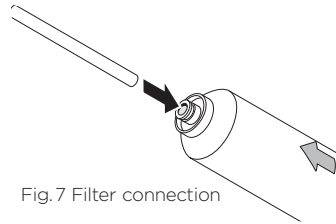

Fig.7 Filter connection
- ① Measure out and cut the length of tube required from the filter to the refrigerator, and from the filter to the water supply. When cutting, make sure tube ends are square and clean.
- ② Push fit one of the tubes into the water filter (Fig.7).